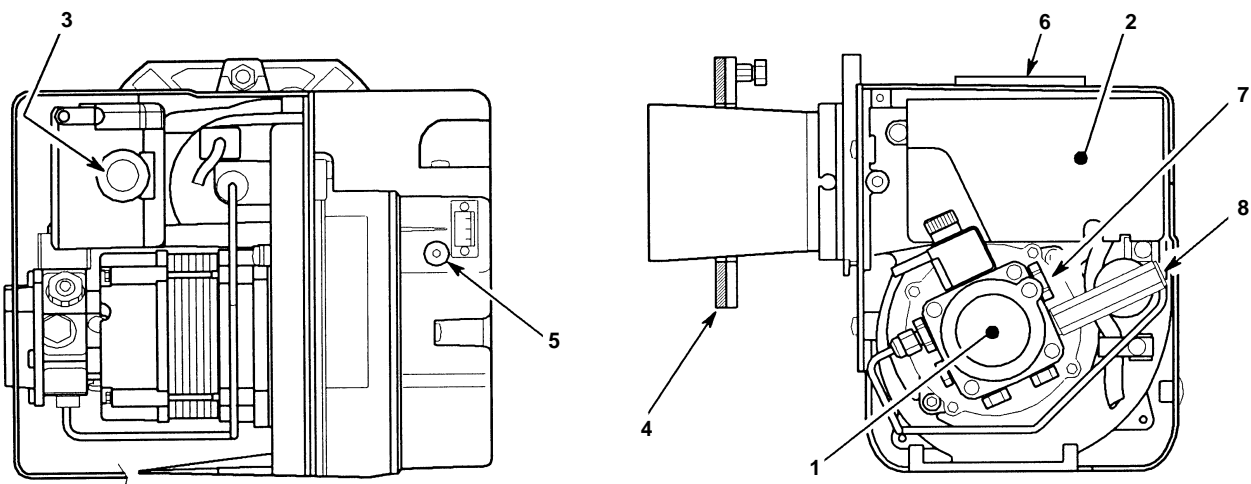

Fig. 19 - Riello RDB burner components
- 1 Remove and retain the burner fixing nut from the stud on the burner fixing flange on the front of the boiler, see Fig. 19. Leave the small nut in position (ensure it is located up against the mounting flange).
- 4 Connect a combined vent manifold and pressure gauge to the pressure gauge connection port on the oil pump. See Fig. 19. Open the vent screw on your vent manifold to vent the supply while the pump is running.
- 7 With the burner alight, check the fuel pressure. Refer to the Technical Information, sections 2.2 and 2.3. Adjust the pressure if necessary - see Fig. 19. Note that the On/Off switch (Kitchen/Utility models only, see Fig. 30a) lights when the boiler is switched on, but does not necessarily indicate the burner is firing.
- 12 Check the smoke number, if satisfactory check the CO₂. Use the hexagonal key supplied to adjust the burner air damper (see Fig. 19) as required. Turning the screw anti-clockwise closes the damper and increases CO₂ level, turning the screw clockwise opens the damper and reduces CO₂ level. Re-check the smoke number if the air damper has been moved.